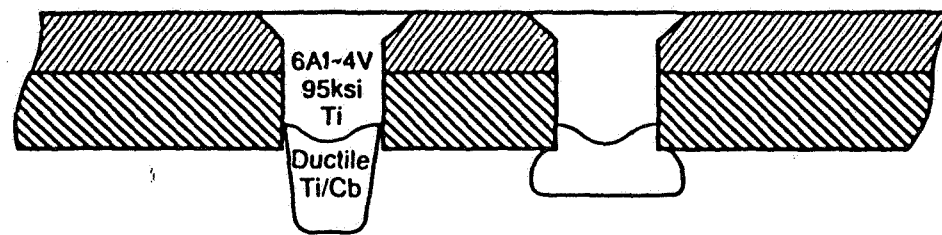

Figure 56 - Cherry Buck Rivet
- ➔ This rivet is a hybrid, consisting of a factory head and shank of titanium ($F_{su} = 95\text{ksi}$). A shop shank end of ductile titanium/columbium is inertia welded to the pure titanium shank (see Figure 56).